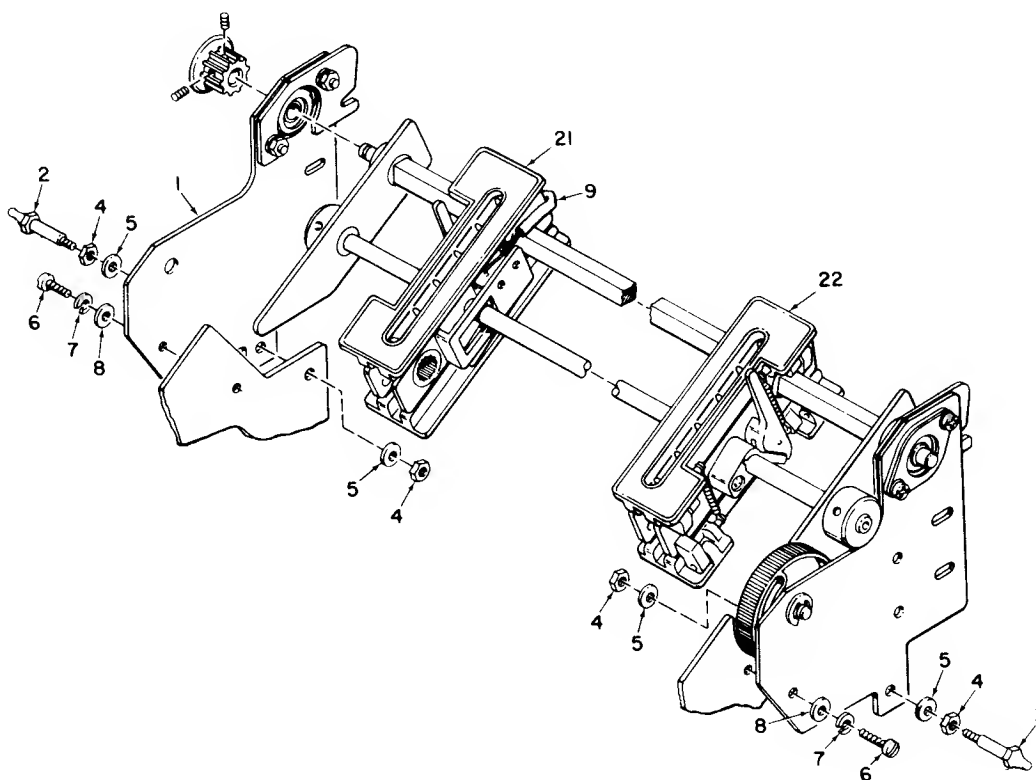

Figure 3-8C. TRACTOR DRIVE AND PIN FEED ASSEMBLY (26-1152)
3.13 TRACTOR DRIVE AND PIN FEED ASSEMBLIES (26-1152 – Figure 3-8C)